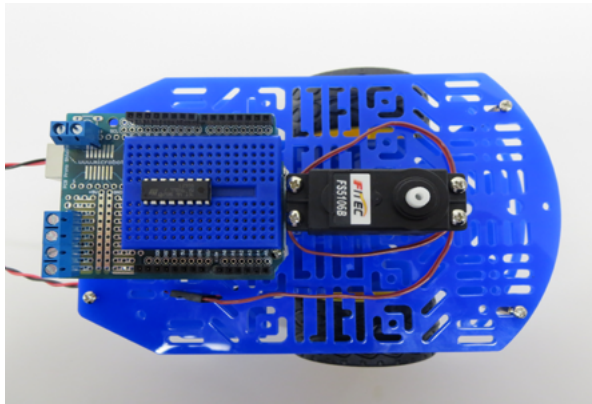

Fig.13
6. Install the L293D Motor Driver IC onto the blue breadboard as shown in Fig. 13. with pin 1 facing the terminal blocks.